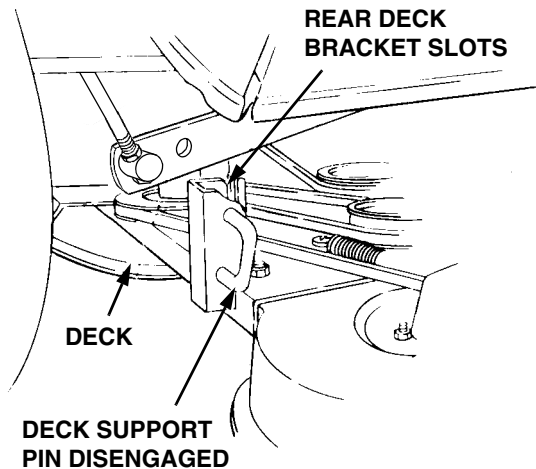

Figure 50
6. If not already done, pull the deck support pins outward, turn downward and release so both spring-loaded pins are held in the disengaged position against the outer surface of the deck brackets (Refer to Figure 50).